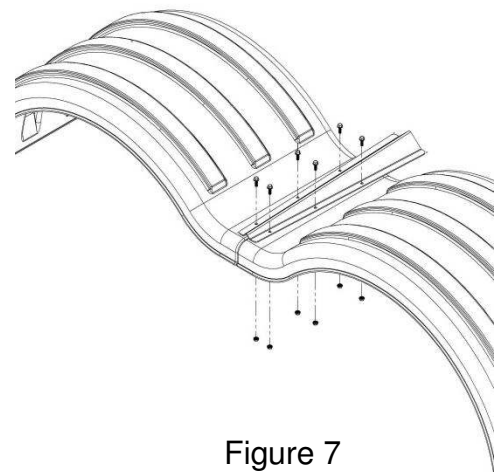

Figure 7
D. Mount the center bracket so that it is directly over the seam where the fenders join together (Figure 7).